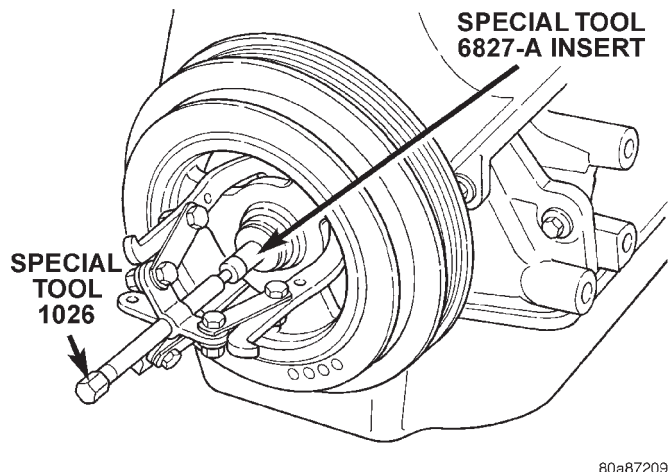

Fig. 42 Crankshaft Damper—Removal
(3) Remove crankshaft damper bolt. Remove damper using the large side of Special Tool 1026 and insert 6827-A (Fig. 42).